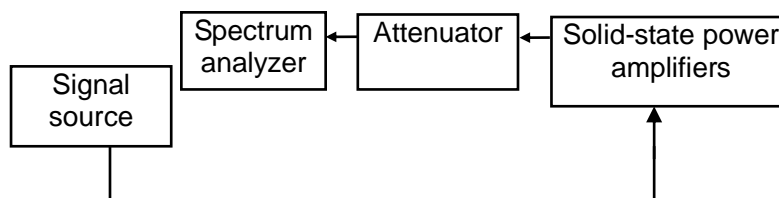

Figure 5-3 Diagram of the non-harmonic suppression test
- 1) Connect the instrument as shown in Figure 5-3, turn on the power of the signal source, the amplifier and the spectrum analyzer preheating.